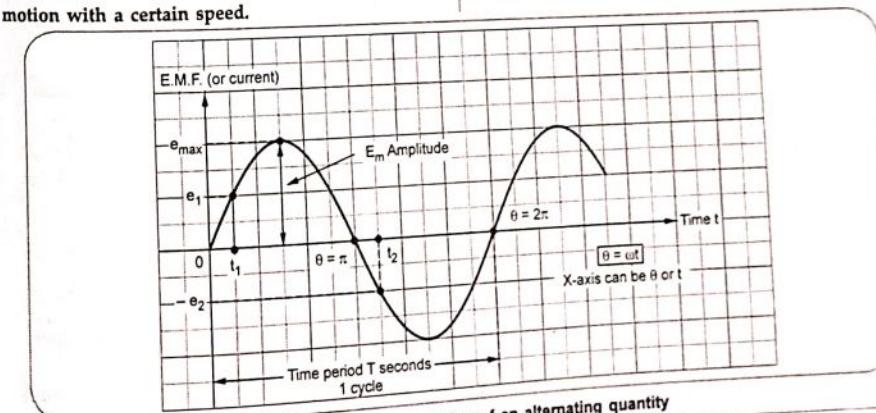

Fig. 2.3.1 Representation of an alternating quantity
• The Fig. 2.3.1 shows the graphical representation of an alternating quantity.
**1. Instantaneous value :** The value of an alternating quantity at a particular instant is known as its **instantaneous value**. e.g.  $e_1$  and  $-e_2$  are the instantaneous values of an alternating e.m.f. at the instants  $t_1$  and  $t_2$  respectively shown in the Fig. 2.3.1.
One such cycle of the alternating quantity is shown in the Fig. 2.3.1.
After every T seconds, the cycle of an alternating quantity repeats. This is shown in the Fig. 2.3.1.